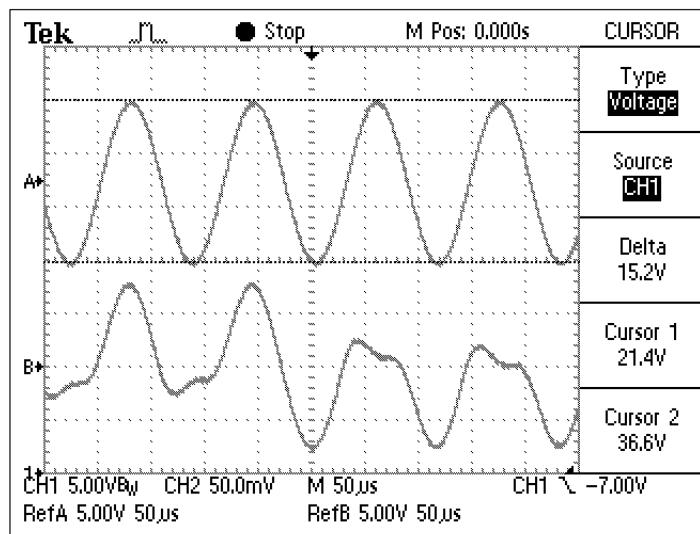

Figure 5.2: True velocity signal (A) and signal when the tracking filter loses lock (B)
- For average velocities and frequencies, the acceleration limits of the tracking filter have to be taken into account. The optimum setting has to be found using the range diagram. If the velocity or acceleration limit of the tracking filter is exceeded, then the internal phase-locked loop loses lock. The signal is then distorted roughly. In FIGURE 5.2 you can see an example of an oscilloscope showing a distorted signal. Signal A shows a sinusoidal velocity signal with the tracking filter switched off. Signal B shows the same signal with the tracking filter switched on in Slow mode. Here the tracking filter is at the limit of losing lock and the signal is partially being distorted.